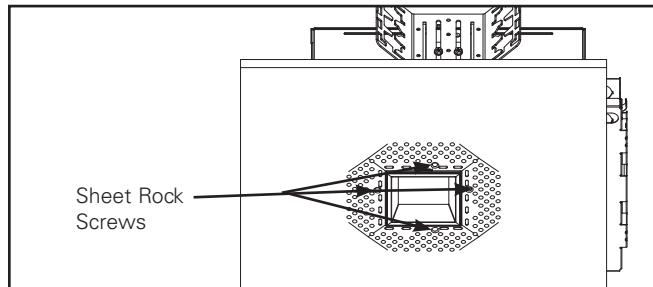

Figure 3.
9. Drive 4 sheet rock screws into the applicable holes of the lathing ring (see Figure 3). The sheet rock screws will thread into the holes on the plaster frame (will act as a "nut" to hold the lathing ring snug to the ceiling). Apply uniform pressure across the perforated flanges forming a tight bond with the ceiling. Allow sufficient cure time as recommended by the adhesive manufacturer before applying any joint compound.